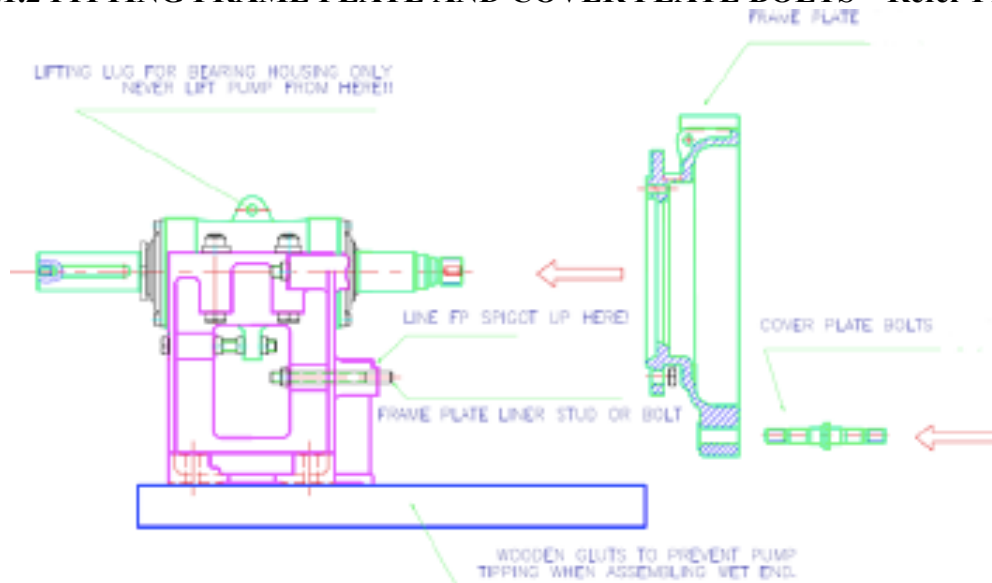

Figure 2-Assembling Frame Plate and Cover Plate Bolts
4.1.2 FITTING FRAME PLATE AND COVER PLATE BOLTS – Refer Fig 2